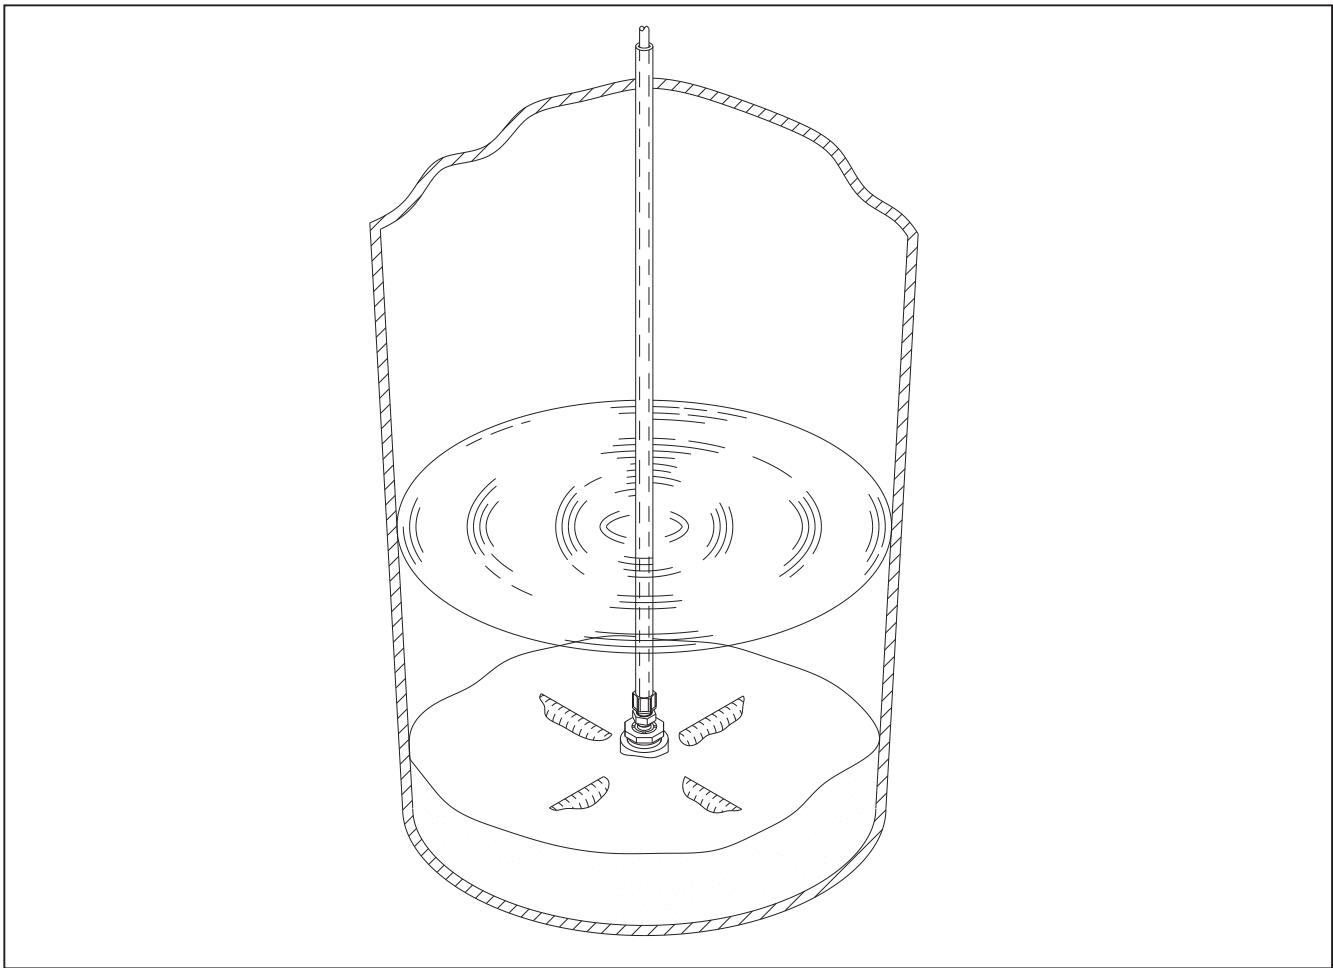

FIGURE 2.
2. Allow the Sodium Fluoride bed level to drop to a point at which the distributor tubes become visible. Valve off inlet water. (See Figure 2)